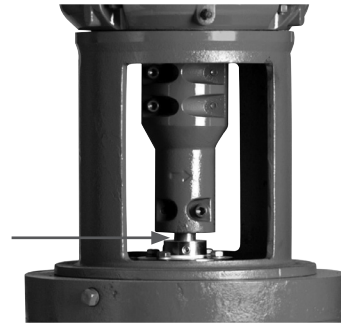

Figure 5a: Run Out Measurement Location
12. Inspect run out of the shaft between the bottom of the coupling and the mechanical seal as shown in Figure 5a. If the run out exceeded 0.005”, the coupling must be adjusted. It is usually most effective to adjust the four bolt section of the coupling.
14. Install the (2) coupling guards.